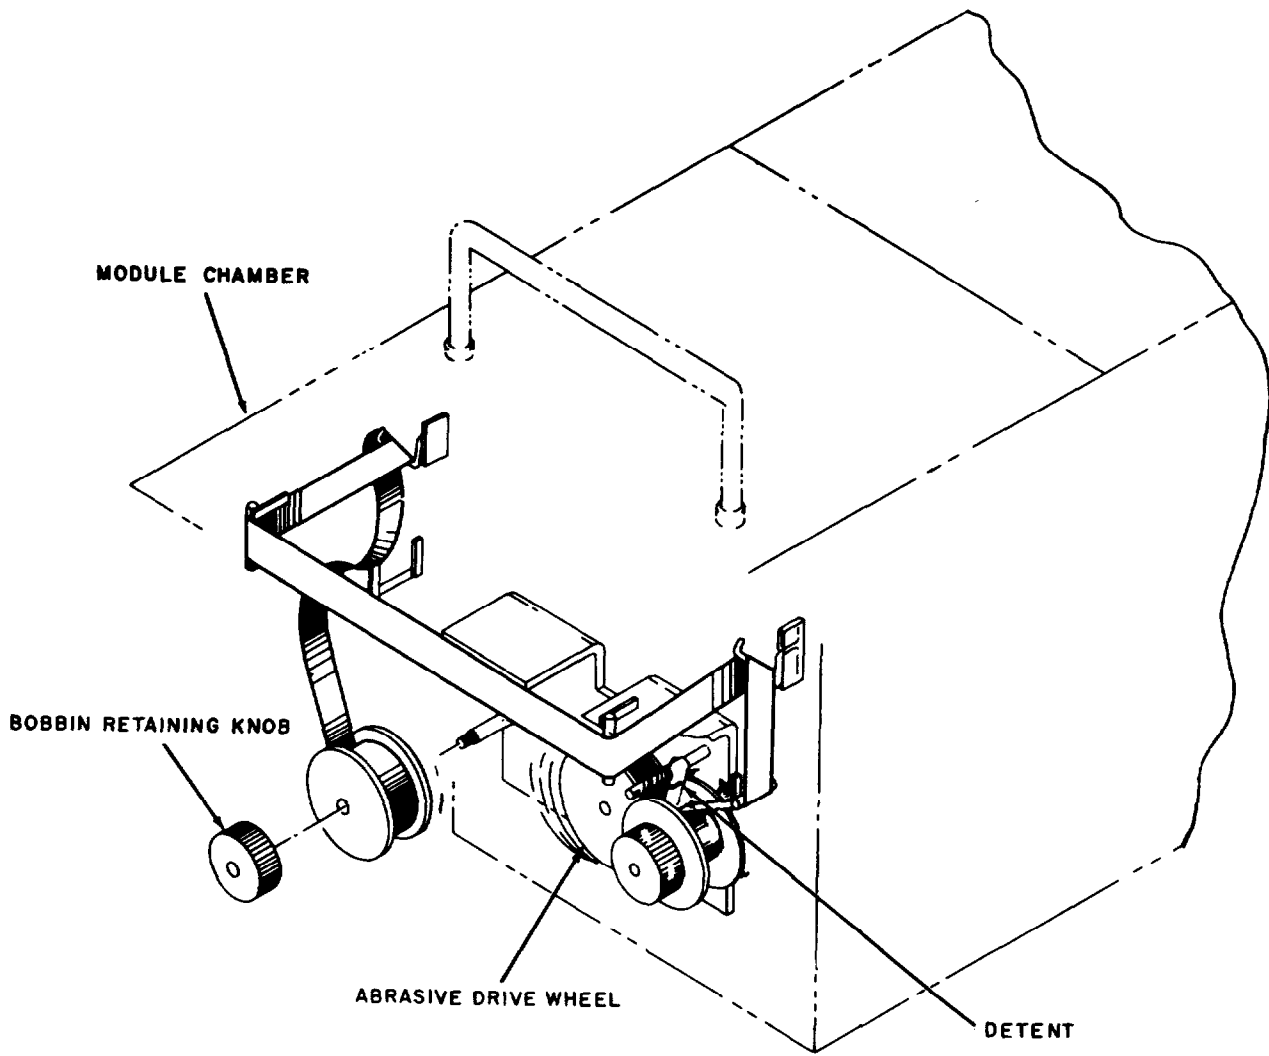

Fig. 3—Ribbon Path and Replacement—KS-20537, L1 Moduprinter
- (3) Swing detent away from larger bobbin and remove.
- (4) With larger bobbin removed, swing abrasive drive wheel to empty side.
- (5) Remove remaining bobbin in same manner.
- (6) Install new ribbon reversing the procedure of the preceding steps. Thread the ribbon as shown in Fig. 3.
- (7) Manually depress the ribbon actuator several times to take up slack and to ensure that new ribbon is not snagged.
- (8) With front plate back in operating position, place module chamber partly back in enclosure.
- (9) Depress solenoid several times observing that ribbon bobbins are advancing.